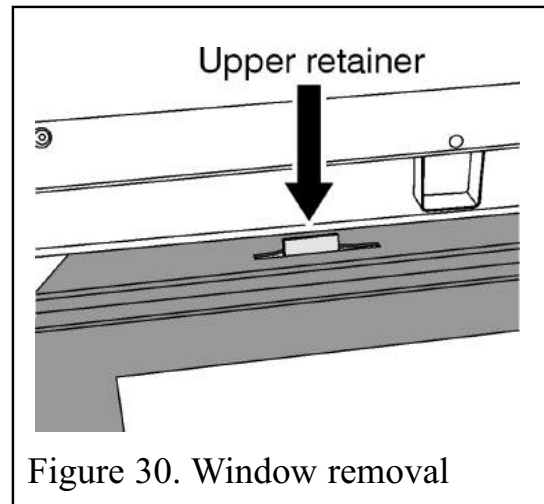

Figure 30. Window removal
2. With both clamps released, gently pull the base of the window panel forward. Hold the window panel base and lift upward until clear of the two upper window retainers (See figure 30).